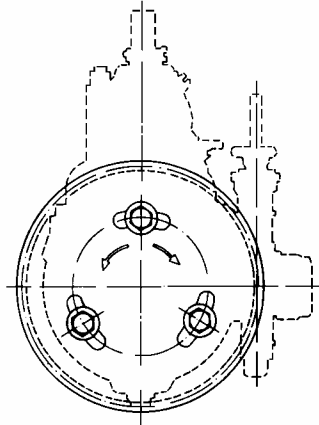

Figure 2 Adjustment of advance angle for oil supply
3. If the advance angle for oil supply is too large or too small, loosen the 3 nuts on the triangle flange pan of the oil injection pump to carry out adjustment. From the front to the rear, the oil injection pump will move clockwise, and the advance angle for oil supply gets smaller. When it is moved anti-clockwise, the advance angle for oil supply will enlarge. **(please refer to the figure2)**